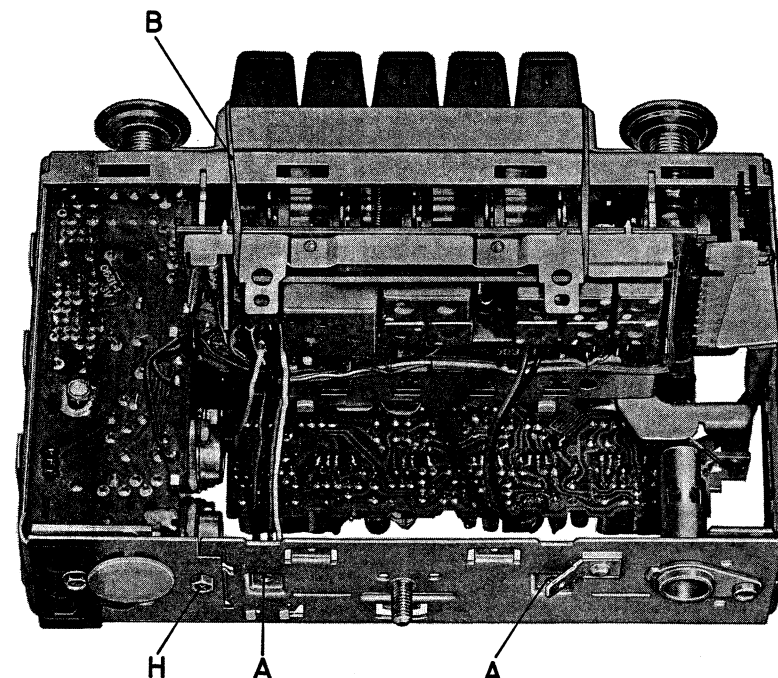

Fig. 1
- Remove the two mounting screws „A“ of the IF board at the rear wall (fig. 1).
- 1.1 Die beiden Halteschrauben „A“ der ZF-Platte an der Rückwand herausdrehen (Fig. 1).
- 1.1 Remove the two mounting screws „A“ of the IF board at the rear wall (fig. 1).